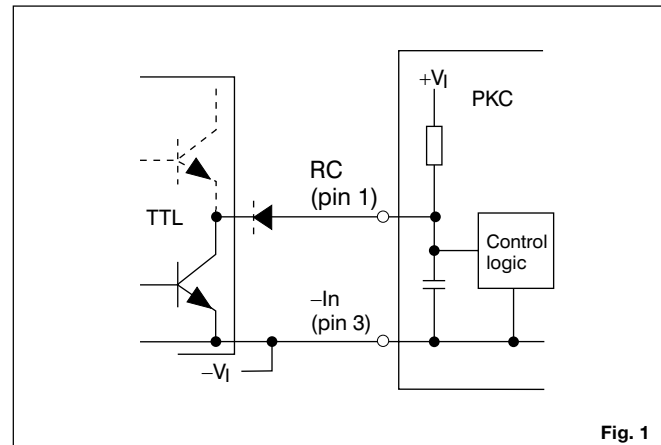

Fig. 1
Turn-on or turn-off can be realized by using the RC-pin. Normal operation is achieved if pin 1 is open (NC). If pin 1 is connected to pin 3 the PKC DC/DC power module turns off. To ensure safe turn-off the voltage difference between pin 1 and 3 shall be less than 1.8 V. RC is TTL open collector compatible (see fig. 1). Pin 1 is an output and no current should be driven into pin 1. Use a diode if necessary e.g. totem pole TTL logic. The internal pull-up resistance is 15 kΩ.